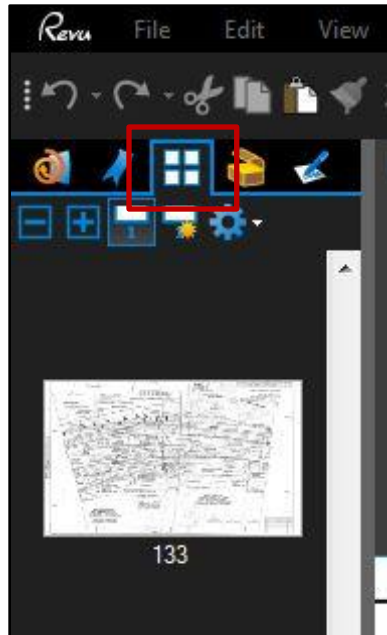

Figure 20. Thumbnail viewer in Bluebeam.
4. Go to the Thumbnail viewer (shown in Figure 20, below) in the project plans document and right click the plan you would like to extract and select "copy pages".